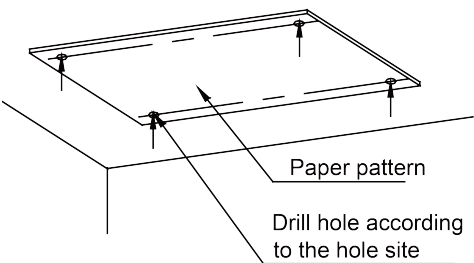
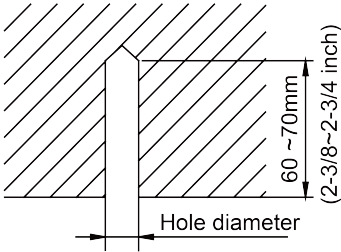

Fig 4.1.3
Fig 4.1.4
- (1) Cut out the installation paper pattern according to the hook installation dimension of unit.
- Place the installation paper pattern on the installation area as shown in Fig 4.1.3. Punch holes on the installation area according to the 4 spots on the paper pattern; the punching diameter may refer to the diameter of expansion bolt, about 60mm (2-3/8in.) to 70mm (2-3/4in.) depth, as shown in Fig 4.1.4.